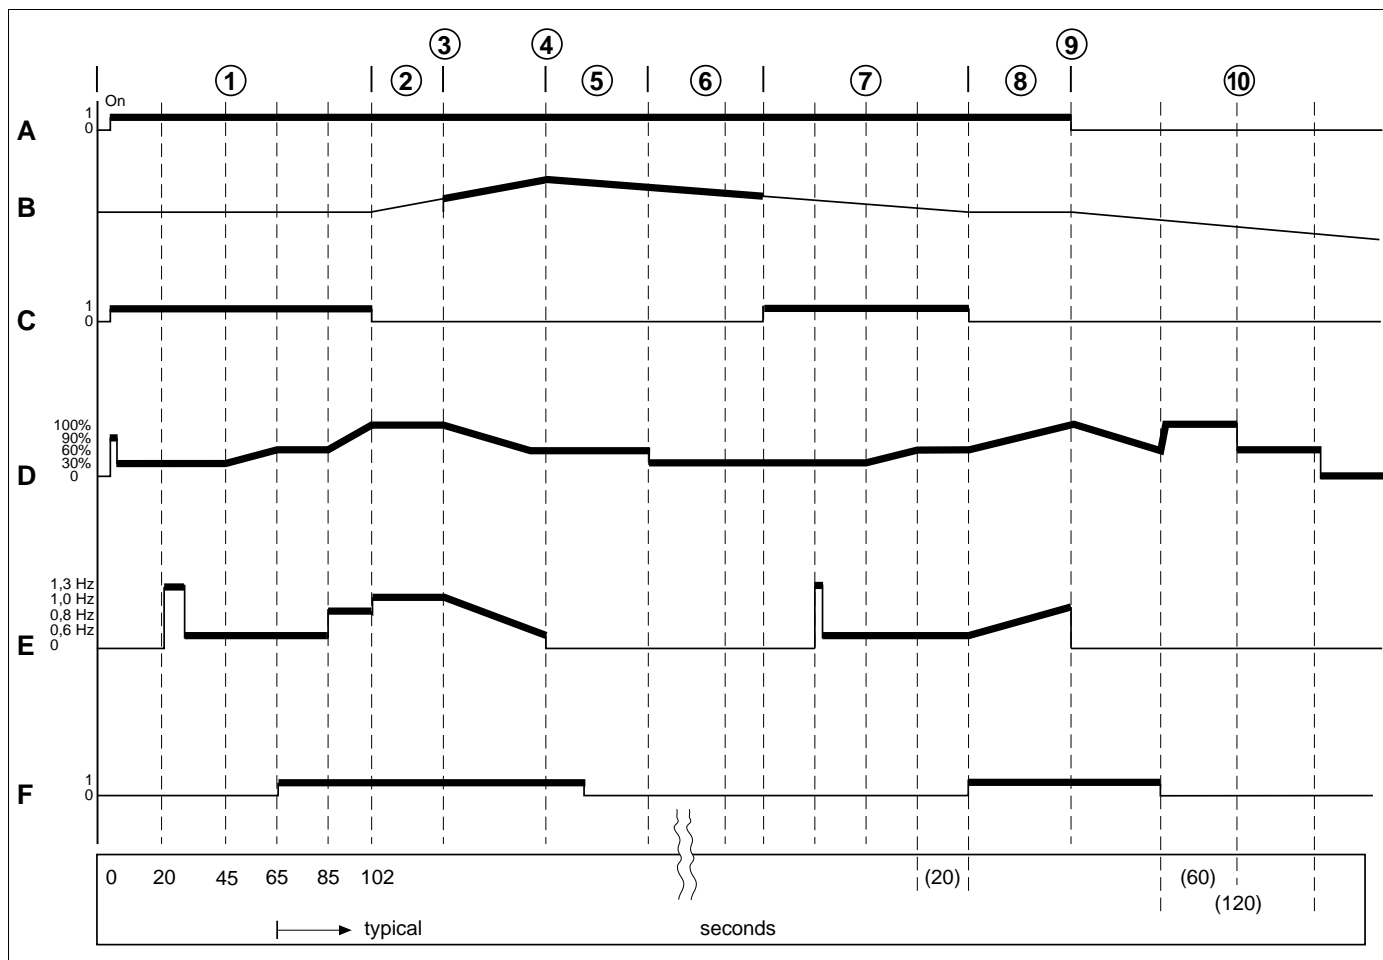

Fig. 301 Functional Diagram (Air Top 2000 without Diagnosis)
3.1 Functional Description Air Top 2000 without Diagnosis (Fig. 301)